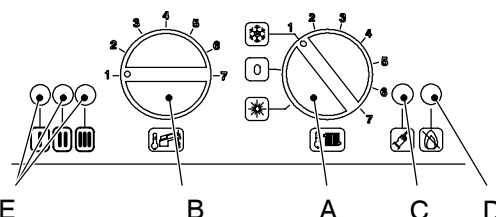

Fig. 39
- 10 Turn the boiler OFF and ON positioning the function selector knob A as indicated in Fig. 39